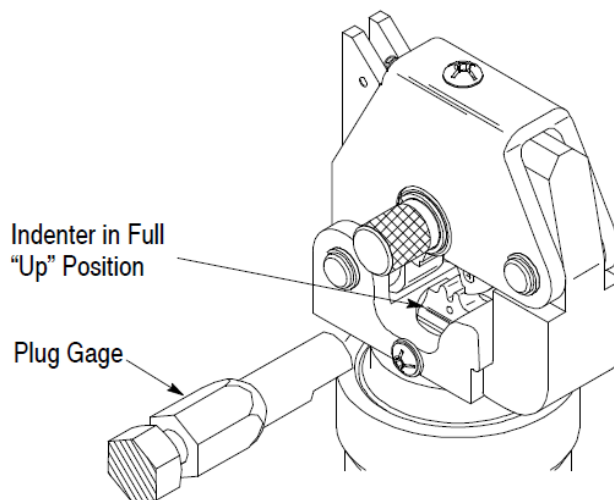

Figure 8
2. Lock the desired nest in the crimp position and raise the indenter to the full "UP" position, as shown in Figure 8.
- ◆ Adjusted order and presentation of Figures and created Figures 8, 9a, 9b from original Figure 8.